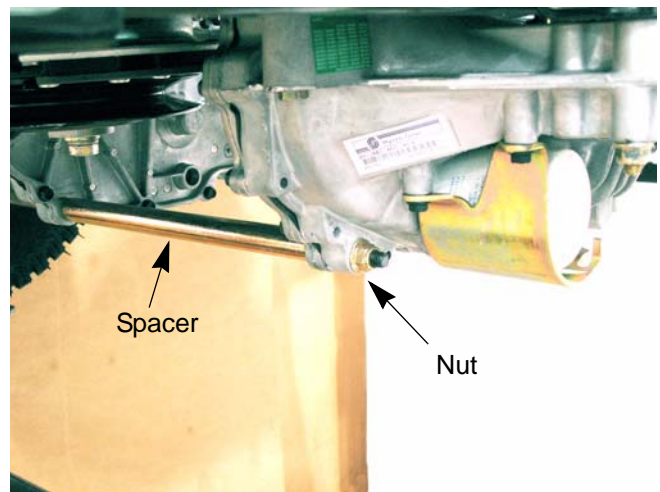

Figure 5.19
12. Remove the nut, T-bolt and spacer that connect the transmissions to each other. See Figure 5.19.